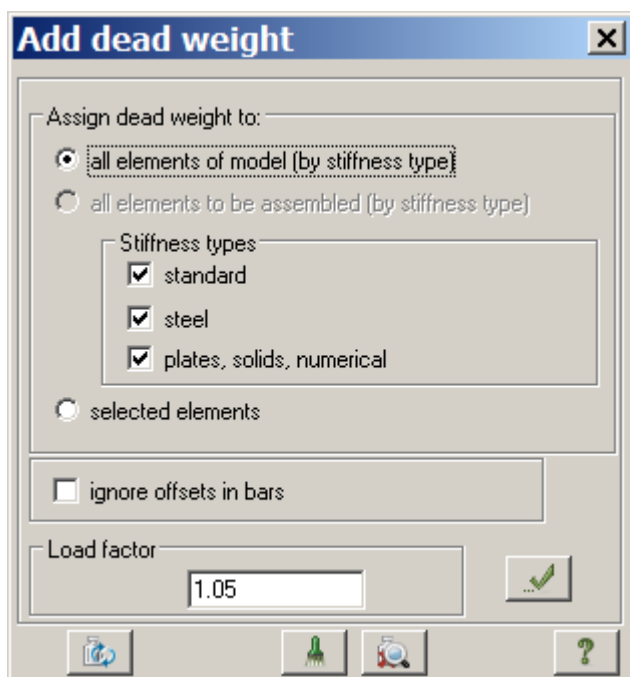

Figure 5.17 **Add dead weight** dialog box
- ⇒ In the **Add dead weight** dialog box (see Fig.5.17), click **All elements** and specify **Load factor** as equal to **1.05** (as in SRS-SAPR \(Steel Tables\) module the unit weight is specified as normative value, it should be converted to design value).